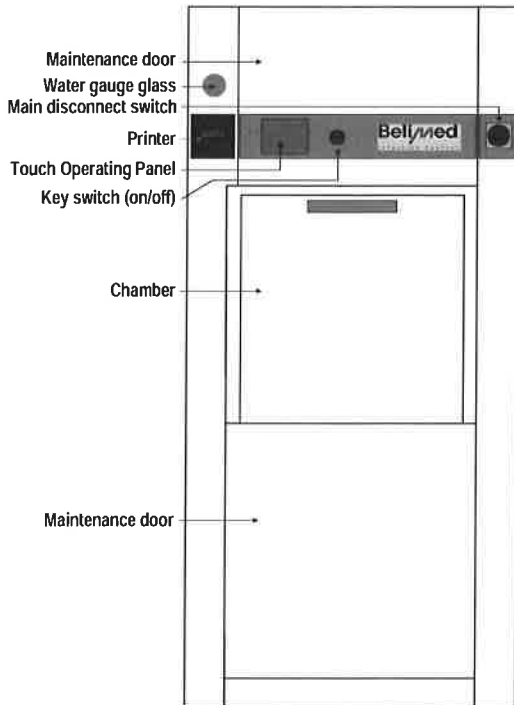

Figure 4-1: Control elements operating end
- Chamber/jacket ratings (fig. 4-1) are located just above the chamber door on the operating end.
Figure 4-1 shows the main components or control elements which are accessible to the user from the operating end. The number of control elements of the sterilizer is reduced to the absolute minimum in order to maximize the simplicity and security of use.